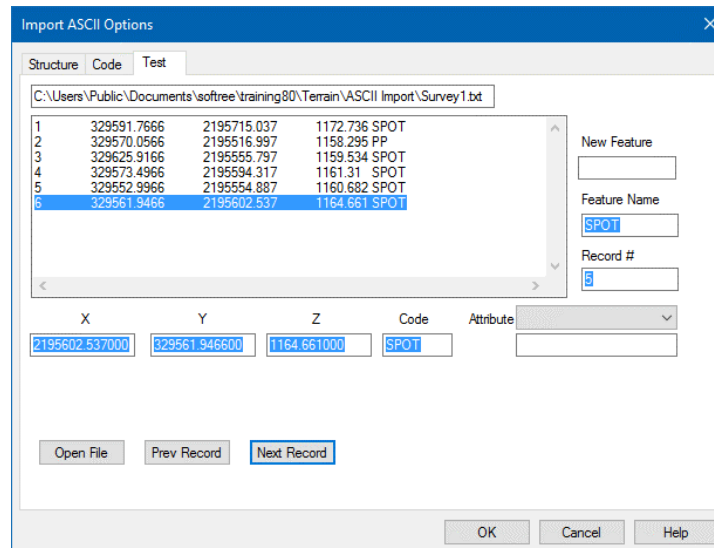

Figure 5-13: Import ASCII options dialogue – Test tab.
14. To test the specification, go to the *Test* tab (Figure 5-13).